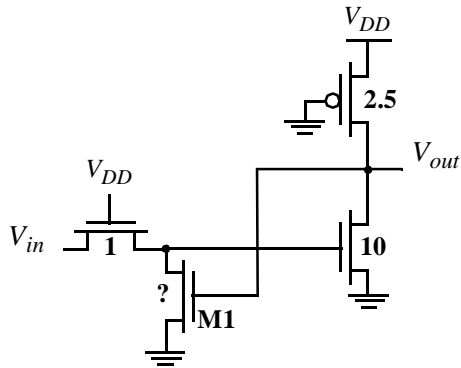

FIG. 1 Schmitt trigger. Numbers on transistors indicate (W/L) ratio's.
a. Shown in Figure 1 is a novel design of a Schmitt trigger. Determine the (W/L) ratio of transistor M1 so that $V_{M+} = 3 V_{Tn}$. $V_{DD} = 3.3V$. You may ignore the body effect in this question. State clearly your other assumptions.